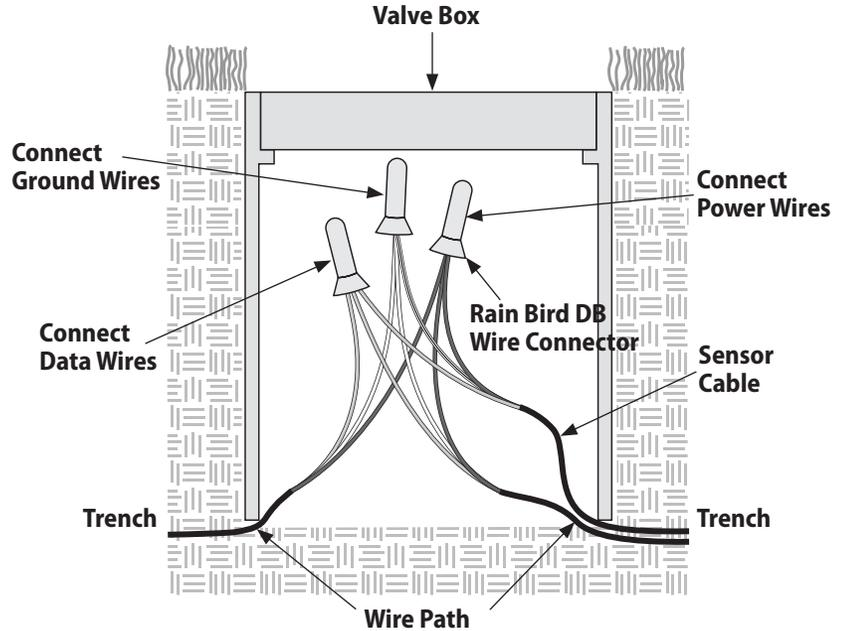

Figure 11 - Valve Box Wiring Diagram
- 1 At each valve box, locate and identify the wire path and the sensor cable as shown in Figure 11.